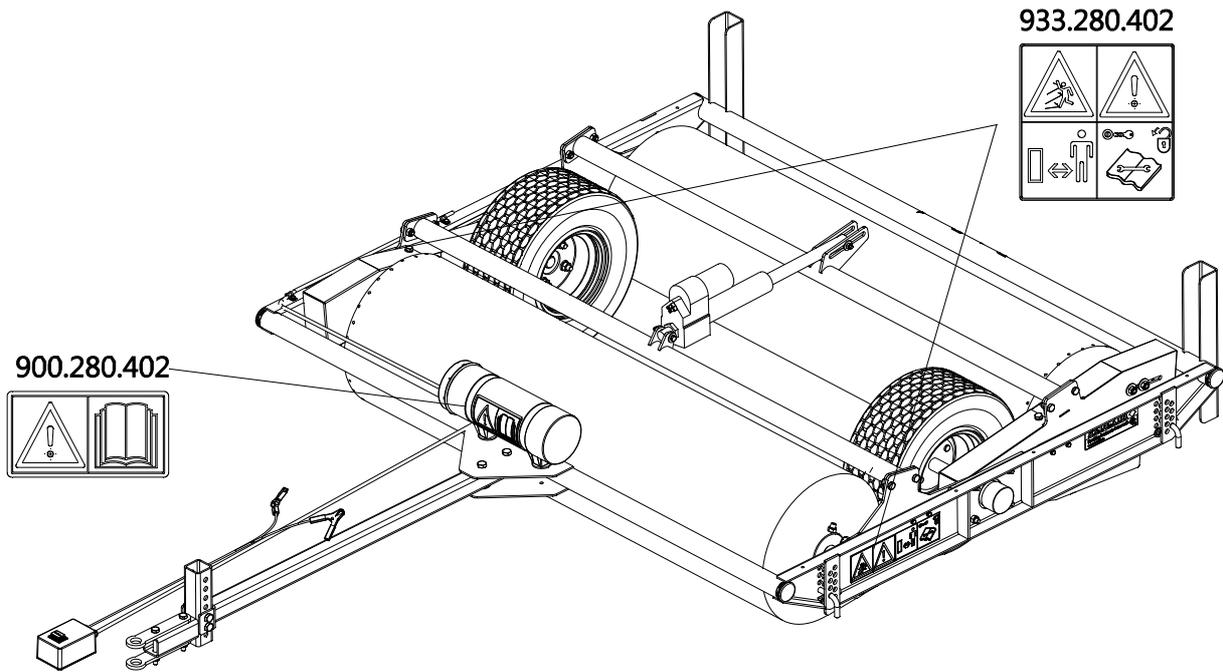

Figure 5
Safety stickers (Figure 2, 3 and 4) with an identical meaning are attached to both sides (Figure 5) of the Speed-Brush. These safety stickers must always be clearly visible and legible and must be replaced if they have become damaged.
7. Location of the safety stickers (Figure 5).